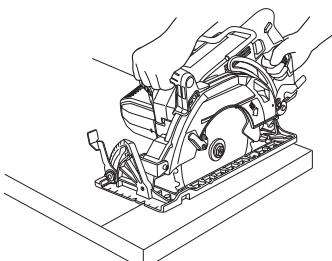
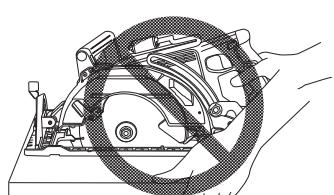

Fig. 2
Fig. 3
4. Place the wider portion of the base on that part of the work piece which is solidly supported, not on the section that will fall off when the cut is made. As examples, Fig. 2 illustrates the RIGHT way to cut off the end of board, and Fig. 3 the WRONG way. If the work piece is short or small, clamp it down.